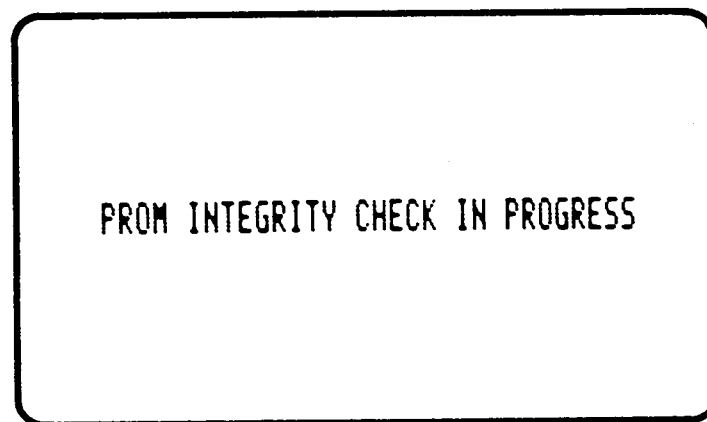

FIGURE 2
- The Program Development Terminal initially performs a PROM integrity check on power-up. At this time a display will be seen on the screen as shown below in Figure 2.